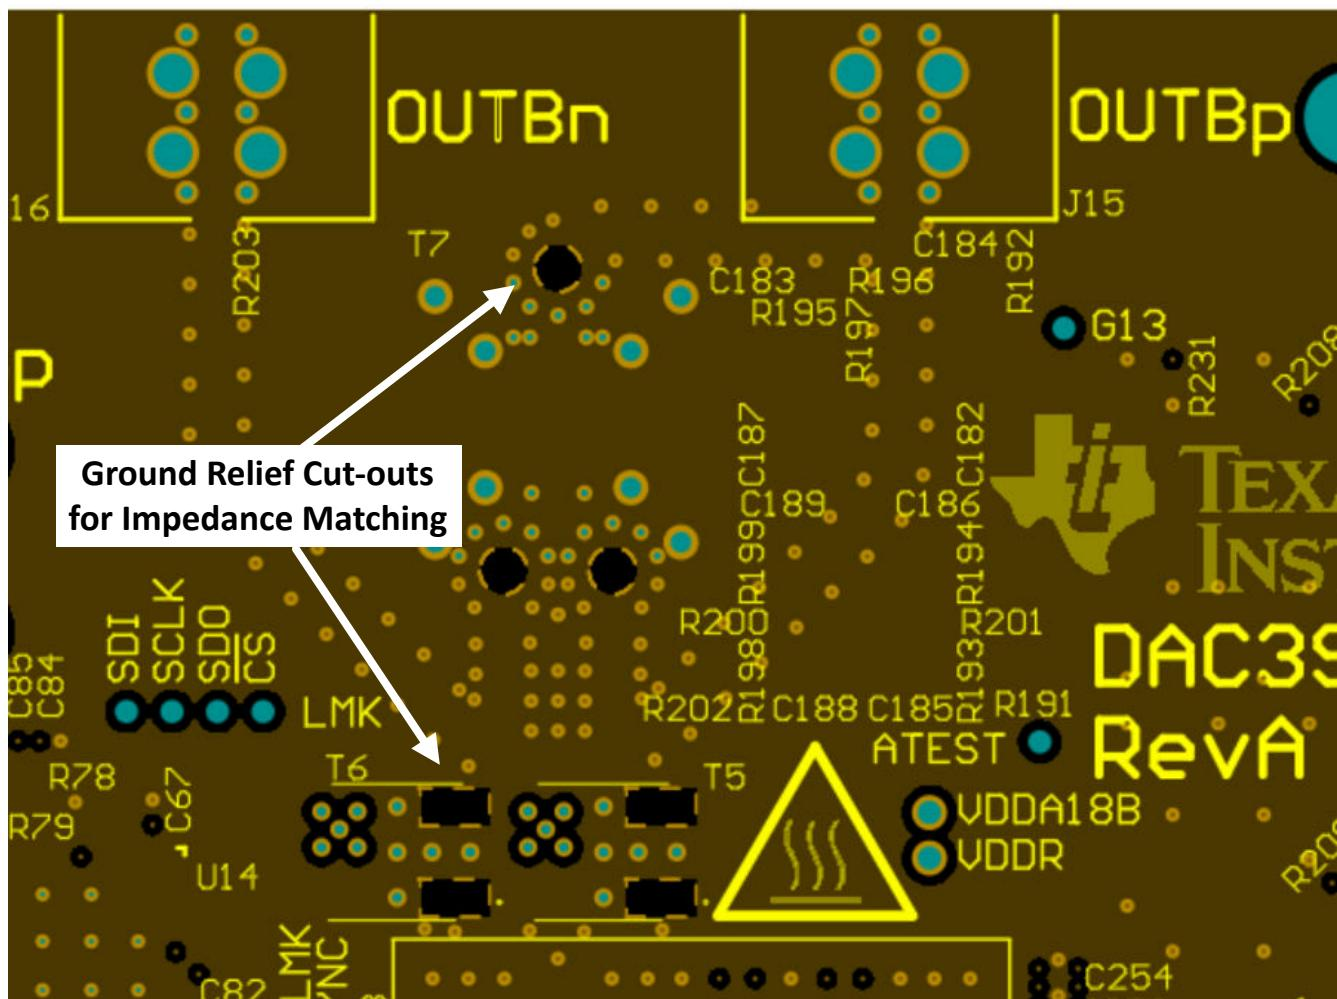
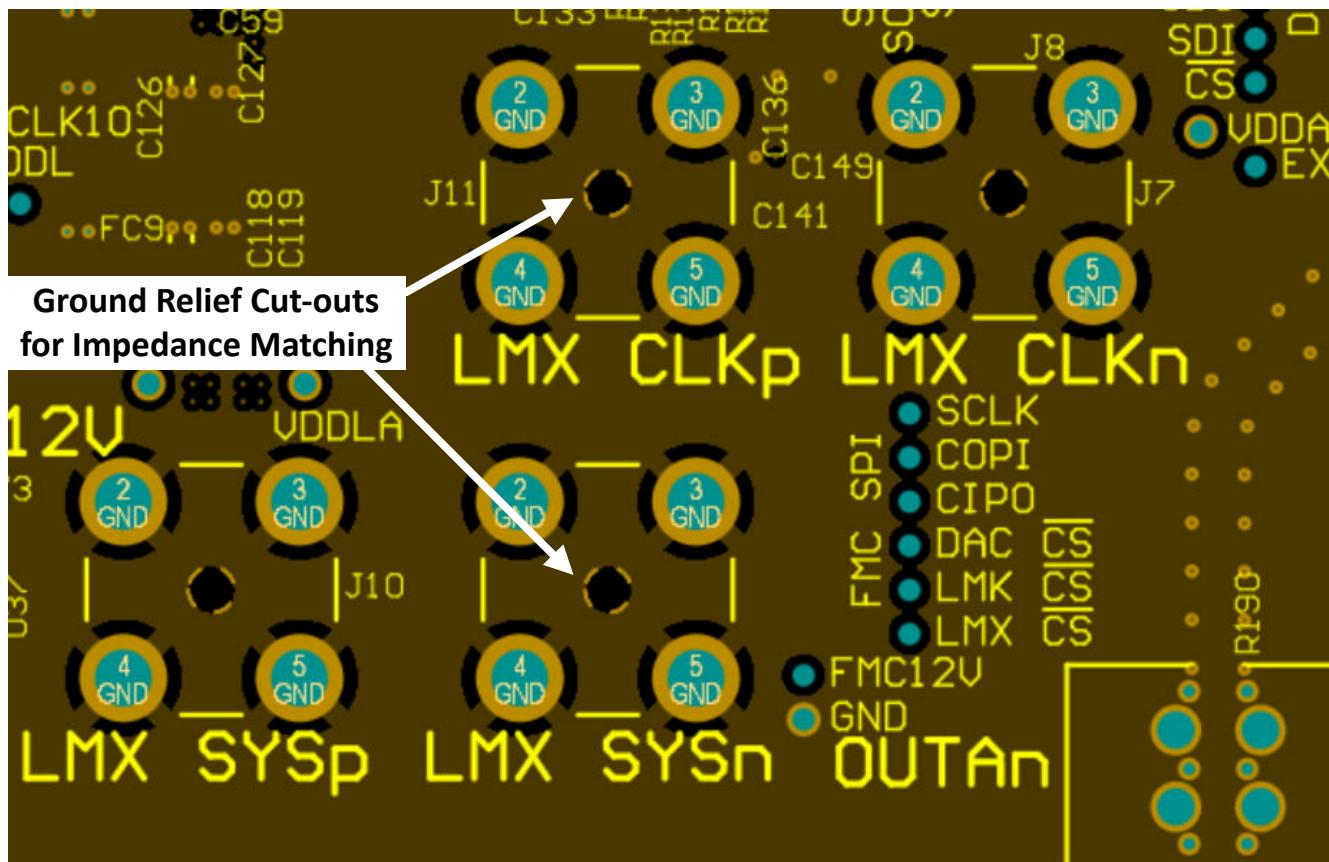

FIG 8-25. Ground Cut-outs below Balun and Bias-T Pins
図 8-26. Ground Cut-out Below SMA Connector Center Pin
- Incorporate any ground plane cutouts necessary at component landing pads, ie – SMA connectors, baluns, etc., to avoid impedance discontinuities at these locations. Cut-outs below these landing pads on one or multiple ground planes to achieve a pad size or stackup height that achieves the needed $50\text{-}\Omega$, single-ended impedance. See 图 8-25 and 图 8-26 as an examples.